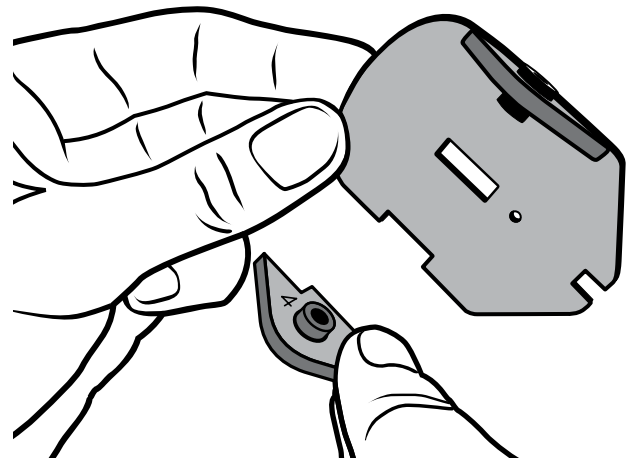

Figure 4
4. Glue the last two Part 4 pieces onto Part 3 as shown (Figure 4). Make sure the flanged ends (the wide end) of the bushings face away from the middle of Part 3. Let it dry.